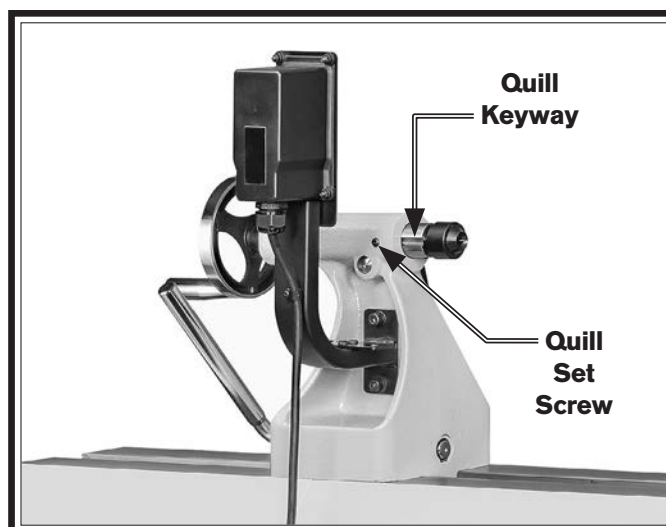

Figure 20. Quill set screw aligned with quill keyway.
3. Firmly insert tapered end of center into tailstock quill (see Figure 20).
4. Make sure quill set screw is aligned with quill keyway to ensure tailstock center and quill will not freely rotate under load (see Figure 20).